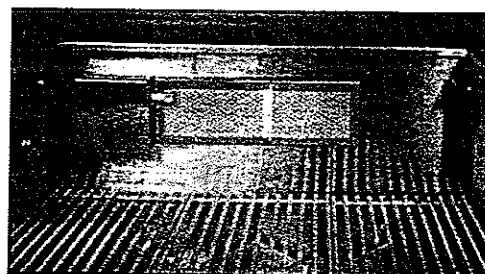

Fig. 5
3. Install cooking grates on the ledges provided on the grill to create your cooking surface. (See Fig. 5)